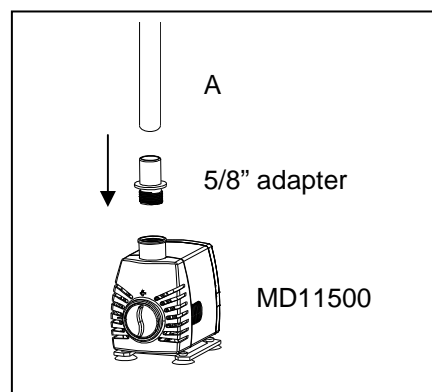

Fig. 7
7. For the MD11500, use the 5/8" adapter to connect the fountain head kit onto the pump. Fig. 7